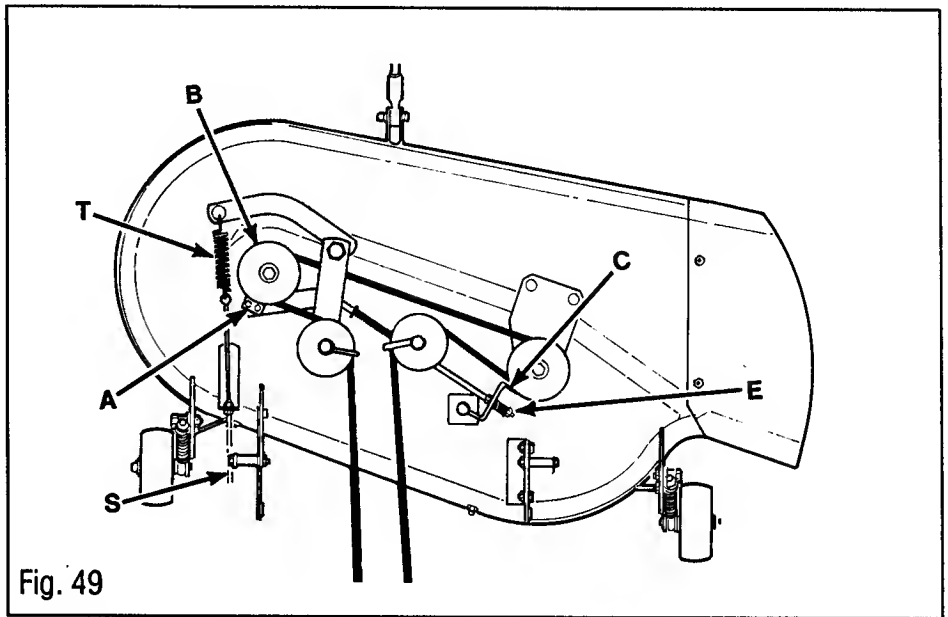

Fig. 49
2. Adjust brake pad (A, Fig. 49) so it squarely contacts pulley (B).
3. Adjust nut (E, Fig. 49) until the leg on brake arm (C) contacts belt.
4. If blade still does not stop within 5 seconds after the mower drive has been disengaged, replace brake pad (A, Fig. 49).